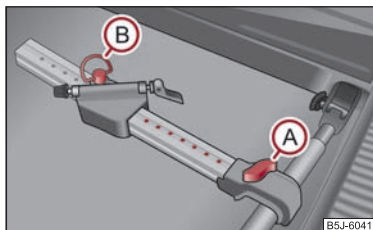

Fig. 69 Install bicycle carrier
- Position the approved bicycle carrier on the middle of the cross member, after pulling up the screw (A) push the frame side rail (alu-part) towards the cross member and screw the screw (A) into the nut ⇒ fig. 69.
- Slacken the screw (B) and take it out of the moveable part of the fixture; position the moveable part of the carrier, depending on bicycle size, into one of the possible positions, so that it does not come in contact with the boot lid. We recommend to place the moveable part of the fixture in such a position that the holes are visible between the screw (A) and the moveable part.
- Insert the screw (B) into the desired position and tighten. ■
- Slacken the screw **A** ⇒ page 70, fig. 69 and push the bicycle holder together with the attached bicycle to the left (in the direction of the arrow), so that no collision between the steering arm and the side window of the luggage compartment can occur.